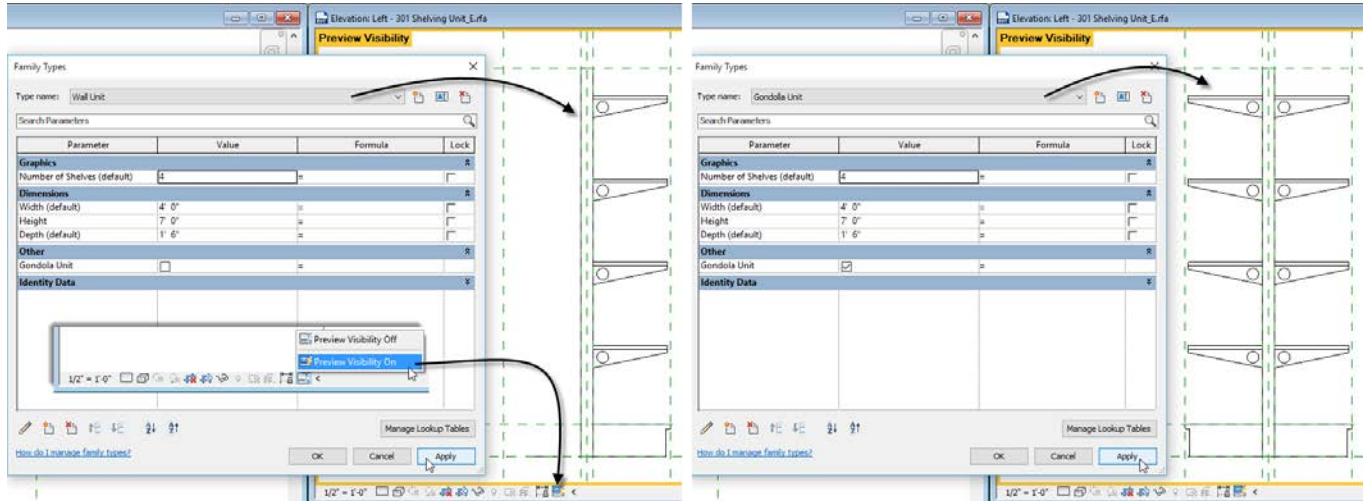

Figure 36
7. Choose the other type and then click Apply (see Figure 36).